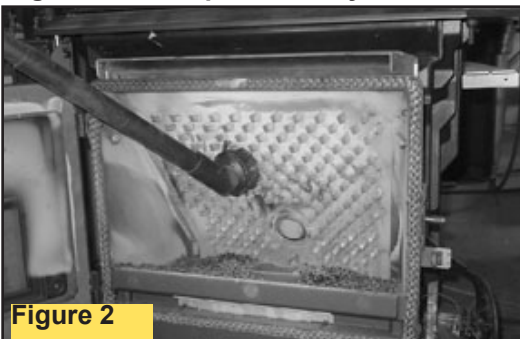

Figure 2
2. Vacuum the ash from the heat exchanger with an upholstery brush to remove the majority of the ash. Be sure to vacuum the back of the baffle also. Inspect the drop tube and remove any residue build-up in the drop tube. **Figure 2.**